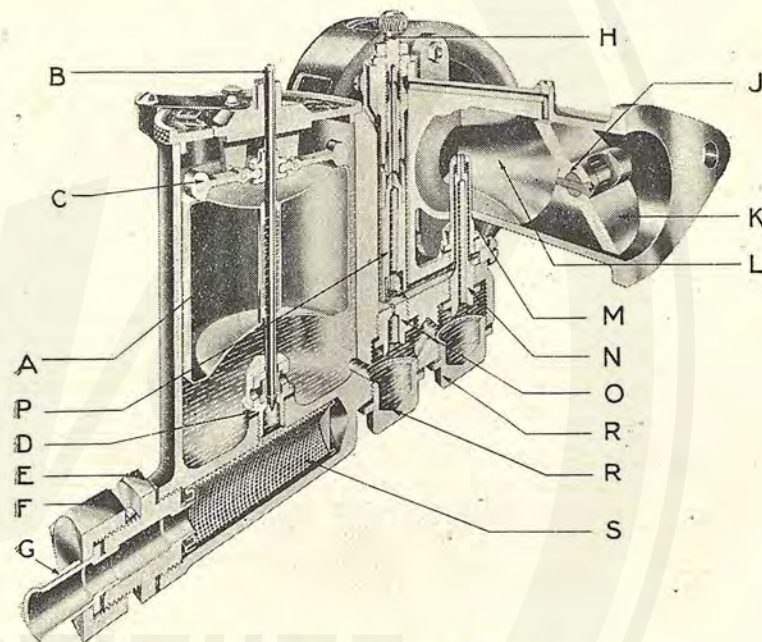

Fig. 11—Section through Carburettor.
**Carburettor.**—A horizontal carburettor is bolted direct to the governor valve casing on the offside of the engine. The cowl fitted to the air intake is connected to the valve chest by a pipe through which a small quantity of heated air is drawn to assist in vaporising the fuel. The section Fig. 11 shows clearly the construction of the carburettor. Detailed instructions for tuning up the carburettor should, if required, be obtained from the makers handbook; the following adjustments, however, which are likely to be required in service are dealt with here.